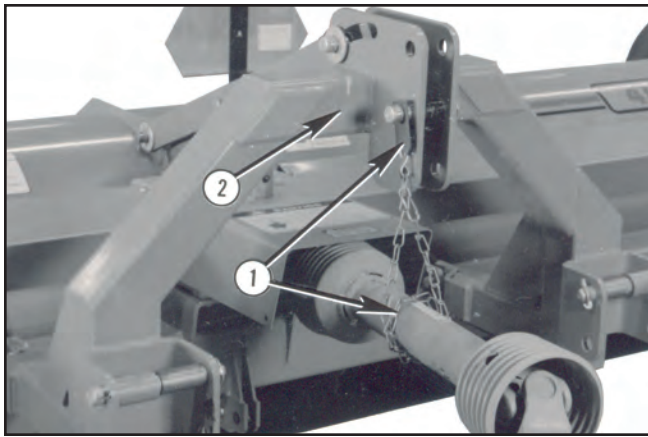

FIGURE 44
Three point hitch shredders may be field mode towed with the PTO detached from the tractor, PROVIDED support chain (1) is wrapped around the PTO and hooked up. Before operation, always insure this chain is removed from the PTO, wrapped around the "A" frame and rehooked on itself. Refer to Figure 44 on Page 16.